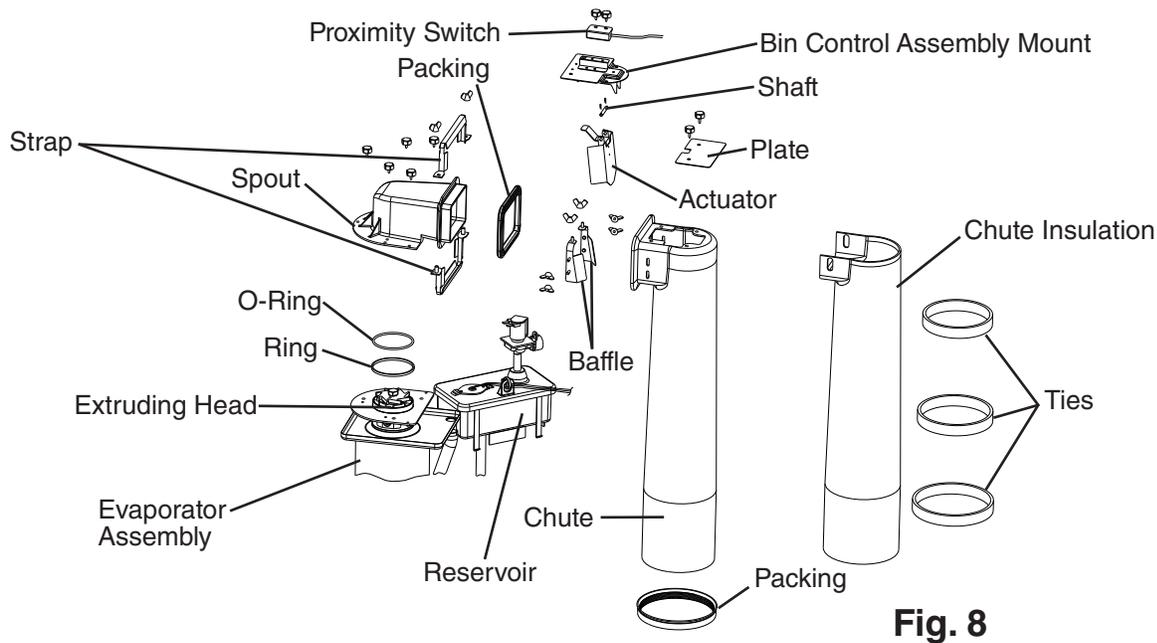

Fig. 8
- 6) Remove the strap connecting the spout to the chute assembly, then remove the spout. See Fig. 8.